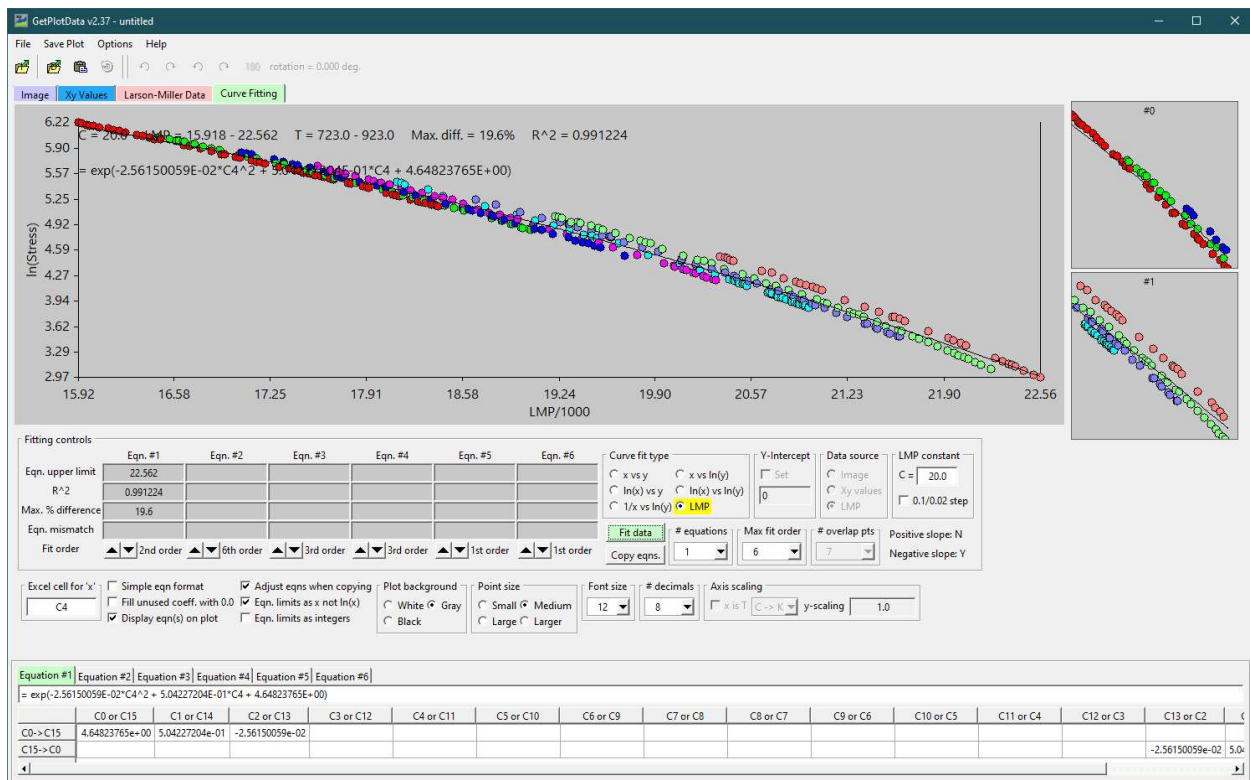

Figure 9. Larson-Miller curve fit.
- b) Change to the “Curve Fitting” tab, select “LMP” as the “Curve fit type” (Figure 9).